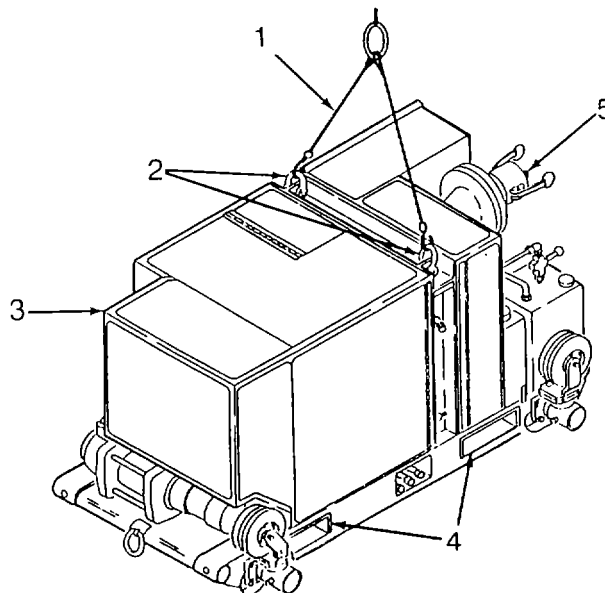

Figure 2-4. Sling and Forklift Positioning (Setup)
- (2) Sling positioning (wheels up). Refer to Figure 2-4.
- (3) Forklift positioning (wheels up or down). Refer to Figure 2-4.